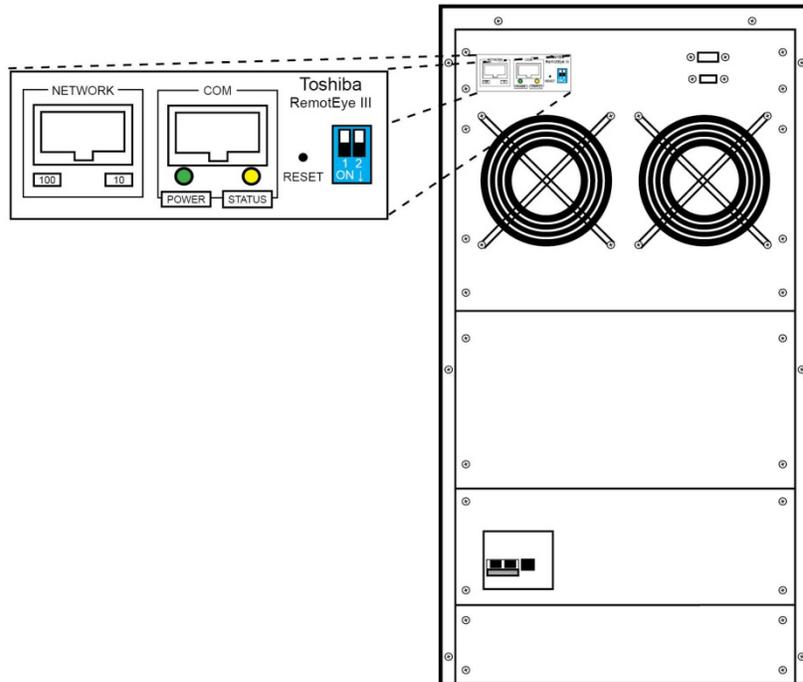

Figure 10: RemotEye III Location in 1600XP UPS
3. Secure the printed circuit board using the UPS supplied screws. (See Figure 10: RemotEye III Location in 1600XP UPS, Figure 12: RemotEye III in 4300 UPS)